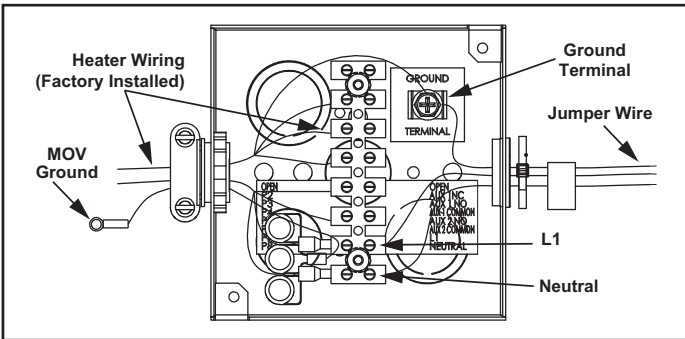

Figure 52. Junction Box Assembly
The 120 VAC hot wire from the power supply must connect to the black jumper wire or the "L1" terminal block location in the junction box and the 120 VAC neutral wire must connect to the white jumper wire or the "Neutral" terminal block location in the junction box for correct polarity. See Figure 52.
3. Connect the 120VAC hot wire from the power supply to the black jumper wire or the terminal block location marked "L1" inside of the junction box located on top of the water heater. If the black jumper wire is used, make the connection inside of the junction box with a properly sized wire nut and wrap electrical tape around the wire nut and wire end. See junction box Figure 52 on page 40 and wiring diagram Figure 61 on page 67.
4. Connect the 120VAC neutral wire from the power supply to the white jumper wire or the terminal block location marked "Neutral" inside of the junction box located on top of the water heater. If the white jumper wire is used, make the connection inside of the junction box with a properly sized wire nut and wrap electrical tape around the wire nut and wire end. See junction box Figure 52 on page 40 and wiring diagram Figure 61 on page 67.
5. Connect the ground wire from the power supply to the green jumper wire or the ground terminal location inside of the junction box located on top of the water heater. If the green jumper wire is used, make the connection inside of the junction box with a properly sized wire nut and wrap electrical tape around the wire nut and wire end. See junction box Figure 52 and wiring diagram Figure 61 on page 67.